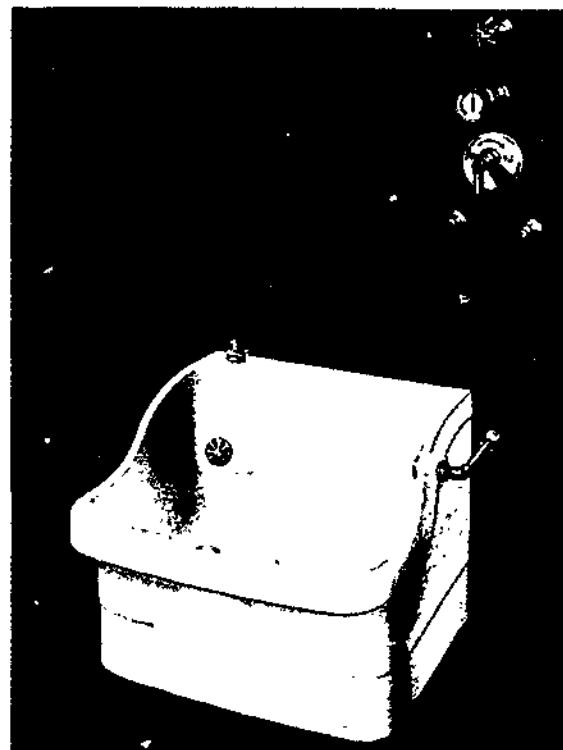
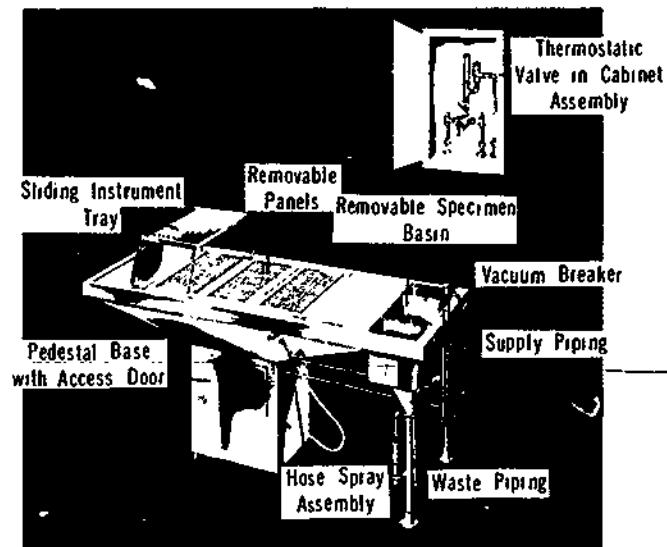
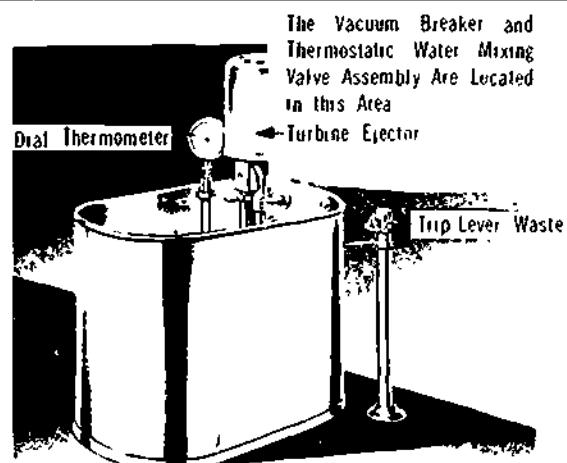

Figure 31-1. Sitz Bath
Figure 31-2. Autopsy Table
Figure 31-3. Combination Arm and Leg Bath
- c) The addition of special fixtures such as a sitz bath (Figure 31-1), an autopsy table (Figure 31-2), and a combination arm and leg bath (Figure 31-3). In general, the water-supply and drainage piping for hospitals is similar to corresponding components for other buildings. After the installation of water lines, the system must be disinfected.
69. Sitz baths are made of vitreous china, vitreous-glazed earthenware, acid-resistant enamelled cast iron, or corrosion-resistant steel. Most are provided with a pop-up waste and overflow waste fitting. (See Figure 31-1.)
70. Autopsy tables are constructed of vitreous-glazed earthenware, acid-resistant enamelled cast iron, or corrosion-resistant steel. The table illustrated in Figure 31-2 is provided with a removable instrument tray and specimen basin. The water supply is provided with a thermostatic mixing valve and a vacuum breaker.
71. The typical combination arm and leg bath comprises an oval-shaped, corrosion-resistant stainless-steel tank, electric turbine ejector, dial thermometer, thermostatic water-mixing valve assembly, and a vacuum breaker. The turbine ejector is provided with an aerator and an elevator for lowering and raising. (See Figure 31-3.)